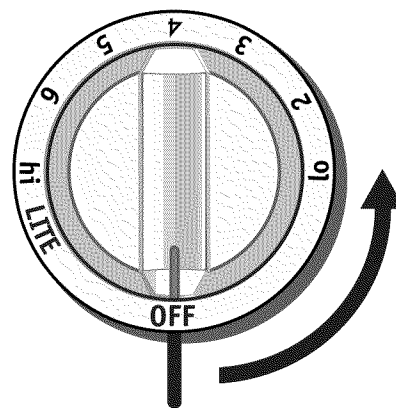

Figure 1
- 3 Release the knob and rotate to the LITE position (see figure 1). Note: All four electronic surface igniters will spark at the same time. However, only the burner you are turning on will ignite.